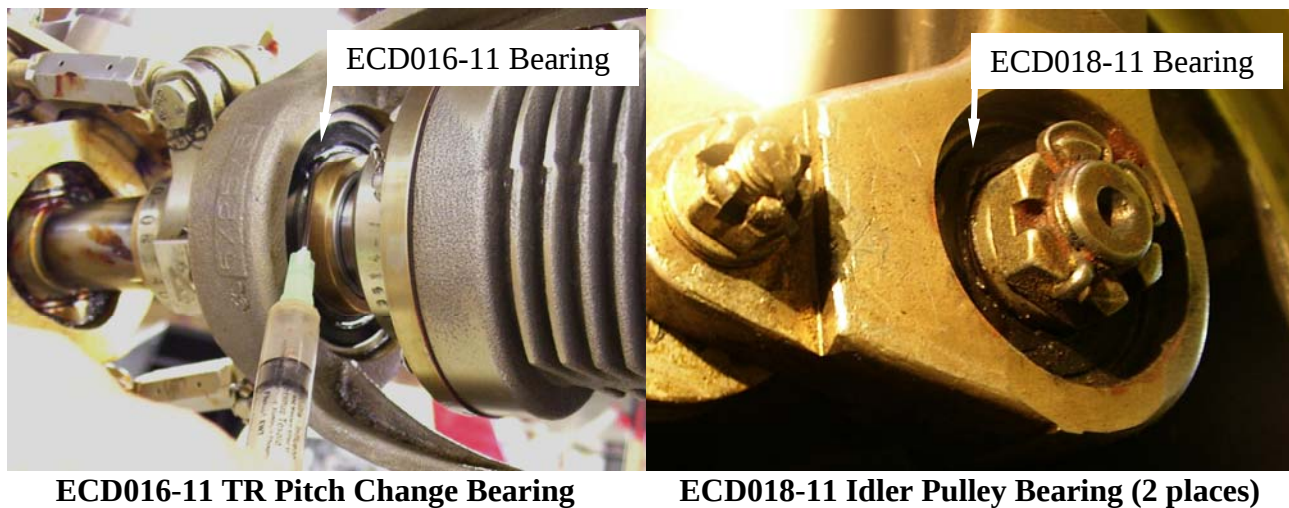

Figure 1. Lubrication Method Using Syringe Needle (As shown for ECD016-11)
F28F, 280F, and 280FX Models: Service the tail rotor pitch change and idler pulley bearings in accordance with the F28F/280F Series Maintenance Manual, Lubrication and Servicing Chart, pages MM-4-4 and MM-4-5, and with the approved greases listed in SIL 0137 at the servicing locations as shown in Figure 1. **CAUTION: Do not mix greases.**
F28A, 280, F28C, and 280C Models: Service the tail rotor pitch change and idler pulley bearings every 100 hours with the approved greases listed in SIL 0137 at the servicing locations as shown in Figure 1. **CAUTION: Do not mix greases.**
- A. Using a 6 cubic centimeter (cc) medical syringe and an 18 gauge hypodermic needle, inject .5cc of grease into the bearing in two places, approximately 180° apart. Carefully insert the tip of the needle under the lip of the seal where it contacts the inner race of the bearing (Figure 1). The tip of the needle can be worked under the lip of the seal and into the bearing between the balls. If the needle does not penetrate between the balls, the needle can be withdrawn and inserted in another position on the bearing.